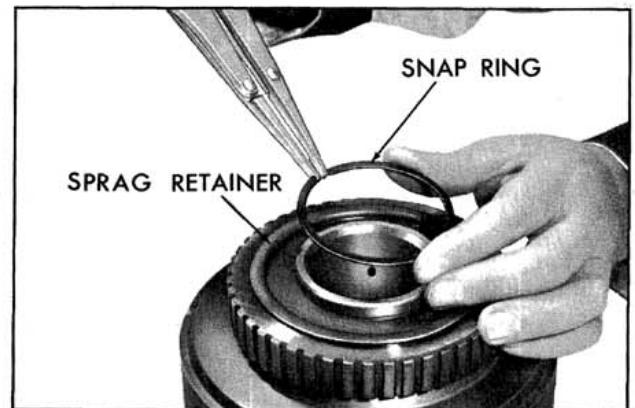

Fig. 6-170 Installing Snap Ring
14. Install sprag retainer and snap ring. (Fig. 6-170)